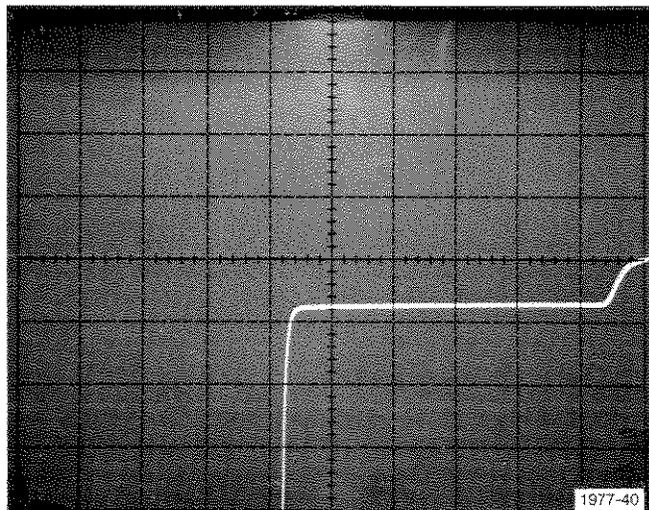

Fig. E-4. - Input bias current.
d. Check that the display displacement from the zero reference point indicates ≤ 250 nA of -Input Bias Current (see Fig. E-4).